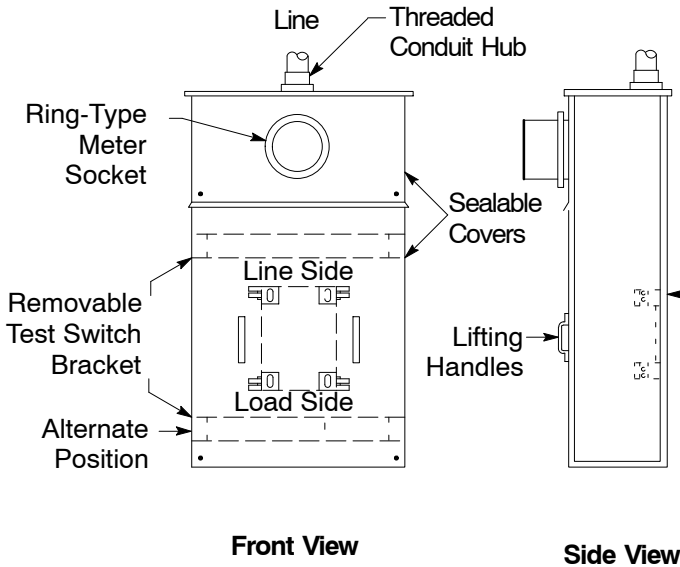

Figure 12
2. Figures 12 through 15 are applicable to a maximum of 300 hp motors.
3. Figures 12 through 15 are applicable to wall-mounted service termination enclosures with maximum ratings of 400 amps, three-phase. Termination equipment that require ratings higher than 400 amps must be pad-mounted and supplied by an underground service.